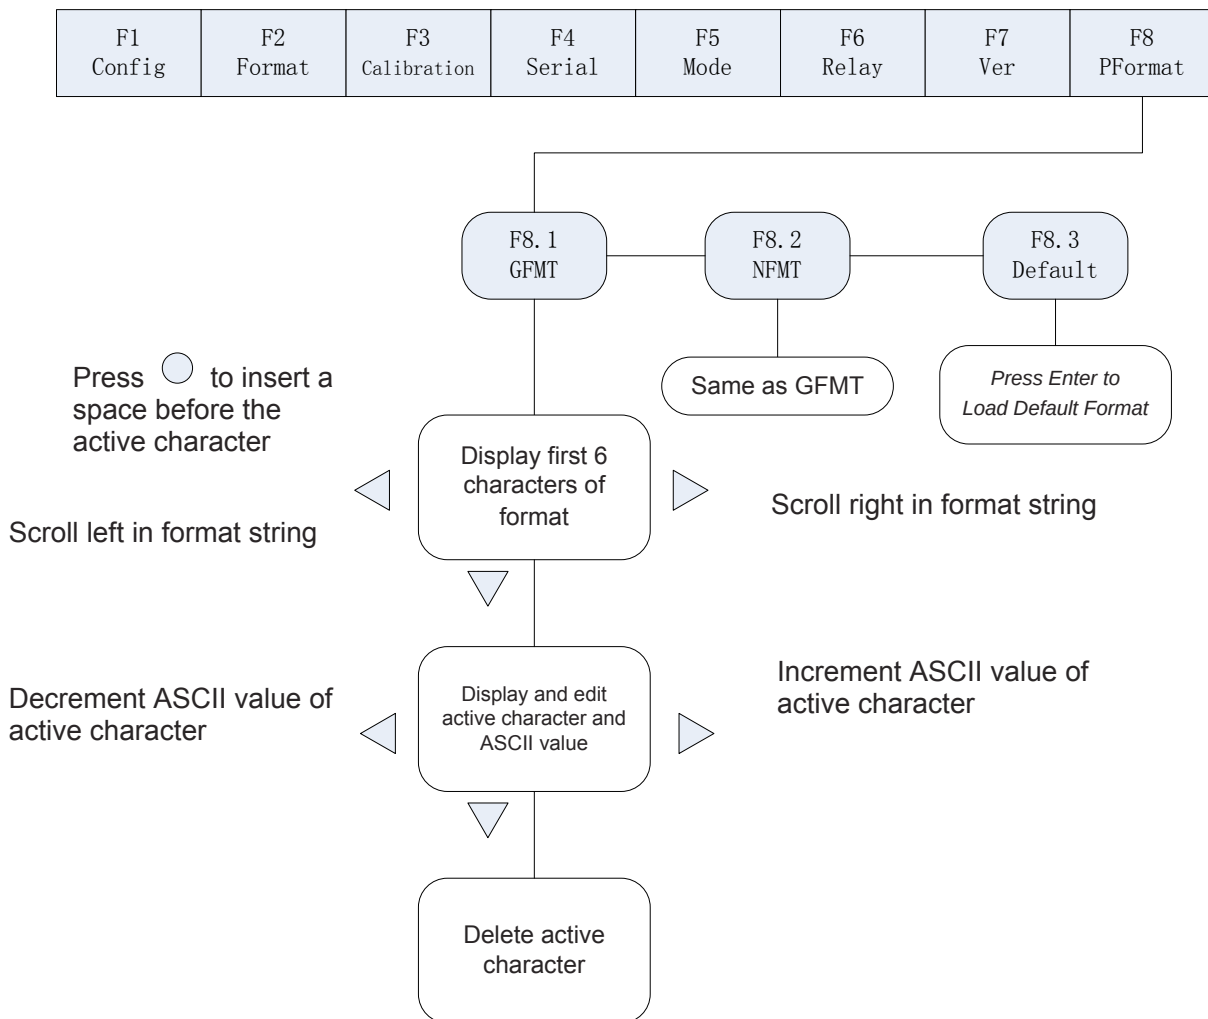

Fig. 7-1 Print Format Input Flow Diagram
- (1) Set indicator to Configuration mode (display shows "F 1")
- (2) Press to show "F 8" (see Fig. 7-1). Press to Print Format Menu and display shows "F 8.1".
- (3) When display shows "F 8.1", press again and display shows the first 6 digits of GFMT format.
- (4) Use , to move the cursor to different flashing digits. When it is at the far right position, press again, the first digit at the left is removed and another digit prompts up at the right. When it is at the far left position, press , the last digit at the right is removed and another digit prompts up at the left. Press to add a space to the left of the flashing digit.
- (5) When the cursor at a certain digit position, press ▼ to edit. Display shows the characters as shown in Appendix 9-5. "-" is shown for characters not available in Appendix 9-5.
- (6) When complete character editing, press ▲ to return to (4) above and to perform editing other characters. When finish editing, press ▲ to return to F8.1 and display shows "F8.1".
- (7) Press ► to go to F8.2 Menu and display shows "F8.2". Refer to (3) to (6) for format editing of NFMT.
- (8) After finishing, turn off the J1 switch to exit from the configuration mode and enter into weighing mode.
- (1) Set indicator to Configuration mode and display shows "F1".
- (2) Press ► until display shows "F8" (see Fig. 7-1). Press ▼ to go to Print output menu and display shows "F8.1".
- (3) When display shows "F8.1", press ► twice and display shows "F8.3".
- (4) When display shows "F8.3", press ○ to show "Set?". There are 2 options then:
- (5) Turn off the J1 switch to exit from the configuration mode and enter into weighing mode.